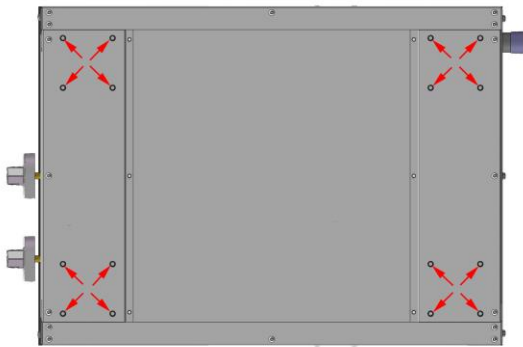

Fig. 1
2. Turn the chassis upside down and locate the leg plate to align the four screw holes (Fig. 1).